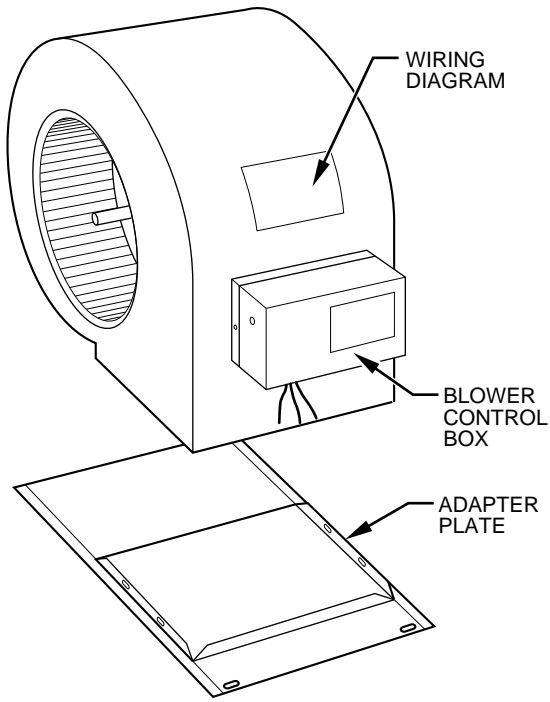

Fig. 15—Attaching KMABA05013TE or KMABA06014TE Blower to 3400/3400A Adapter Plate
- a. For 3400/3400A Furnaces, use adapter plate shown in Fig. 15.
2. Orient new cooling blower with adapter plate provided in kit as shown in Fig. 15 or 16.
4. Secure blower to adapter plate using screws provided in loose parts bag. (See Fig. 15 or 16.)
NOTE: Arrangement of control box base, adapter plate, and wiring diagram on blower housing will differ with make and model of furnace. (See Fig. 15 and 16.)
3. If not already attached, apply wiring diagram shipped with kit to blower housing as shown in Fig. 15 or 16.